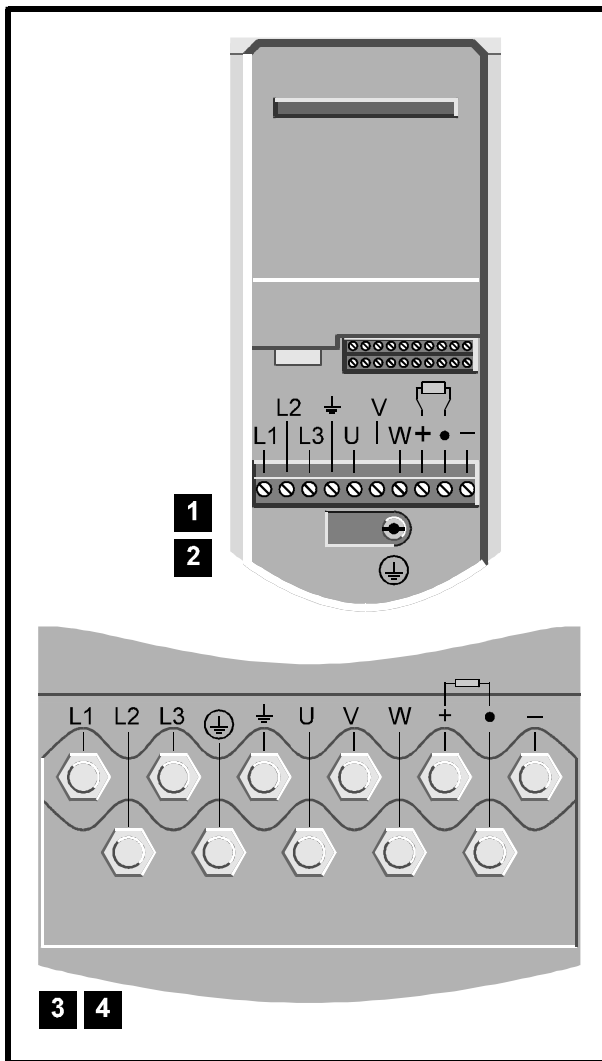

Figure 2-3 Locations of the power connectors
- Figure 2-3 for the locations of the power connections